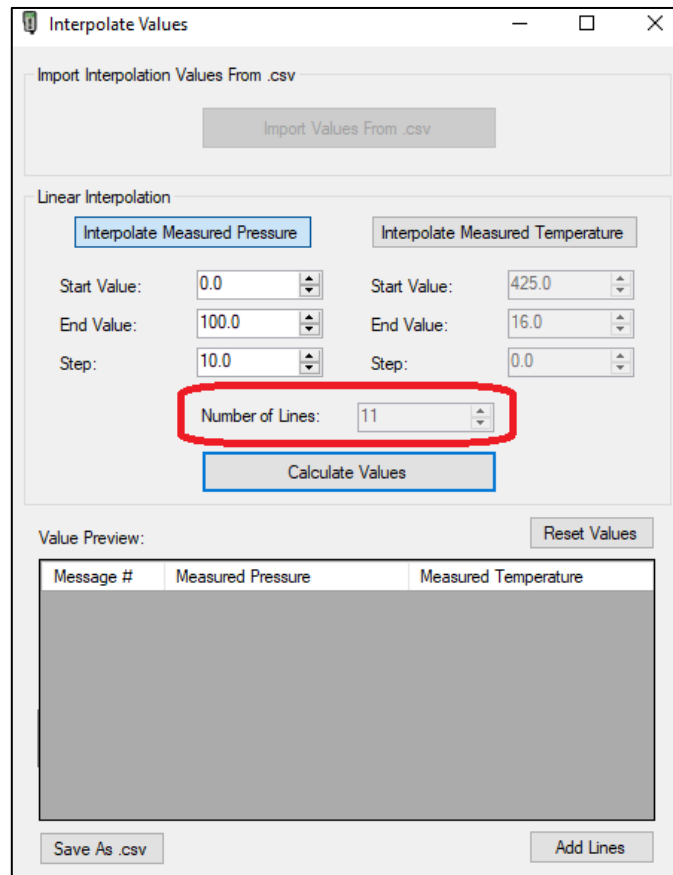

FIGURE 6-38 HHT TEST PATTERN GENERATOR SOFTWARE –MP RESULTS (STEP)
STEP 4	The “Number of Lines” value will update automatically to show the number of IRDI messages that were generated. In this example, the number of IRDI messages generated was 11 – see Figure 6-38.